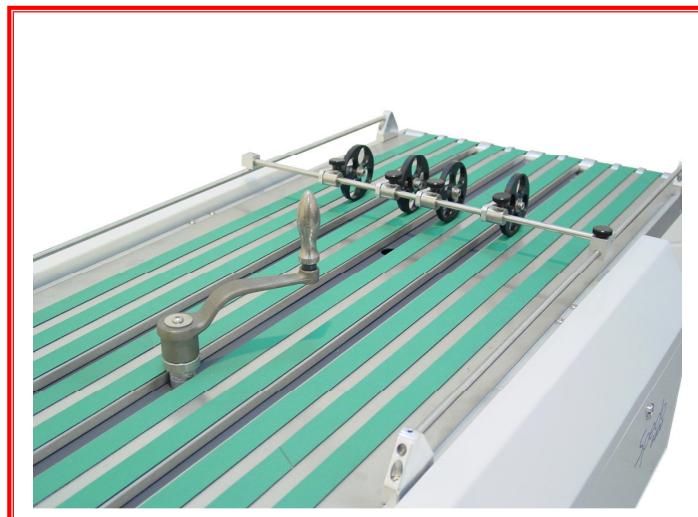

Fig 1.3 Adjusting the Conveyor Height with the Adjustment Tool
- To adjust the conveyor height, first release the adjustable leg locking knobs. Use the adjustment tool to raise or lower the conveyor to the required height as shown in Fig 1.3. Finally tighten the adjustable leg locking knobs to ensure the legs are secure.